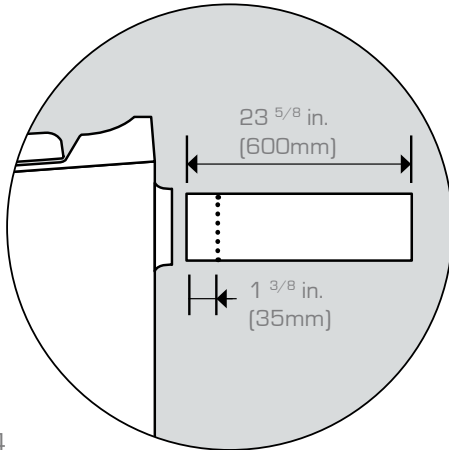

Fig. 4
4. Make a mark  $1\frac{3}{8}$  in. [35 mm] from the beveled end of the pipe to indicate how far the pipe should be pressed into the toilet muff [fig. 4].
1. Make a mark  $1\frac{3}{8}$  in. [35 mm] from the end of the pipe, to indicate how far the pipe should be pressed into the toilet muff [fig. 4].